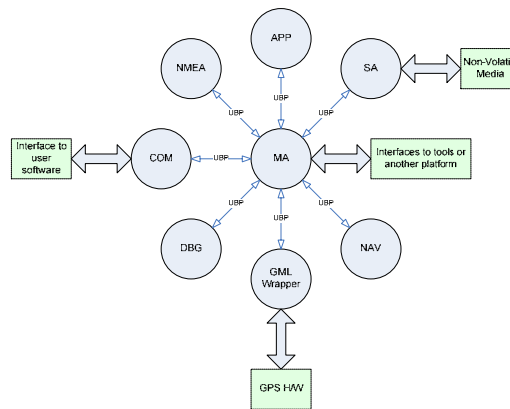

Figure 1: Orion System Architecture
The architecture of the Orion software (Figure 1) is based on an information flow model that consists of message exchange between individual subsystems.
**Standard Subsystem** - The Orion software architecture (Figure 1) is comprised of standard subsystems that are used in both conventional and assisted GPS navigation modes. The descriptions of the modules are listed in Table 1.